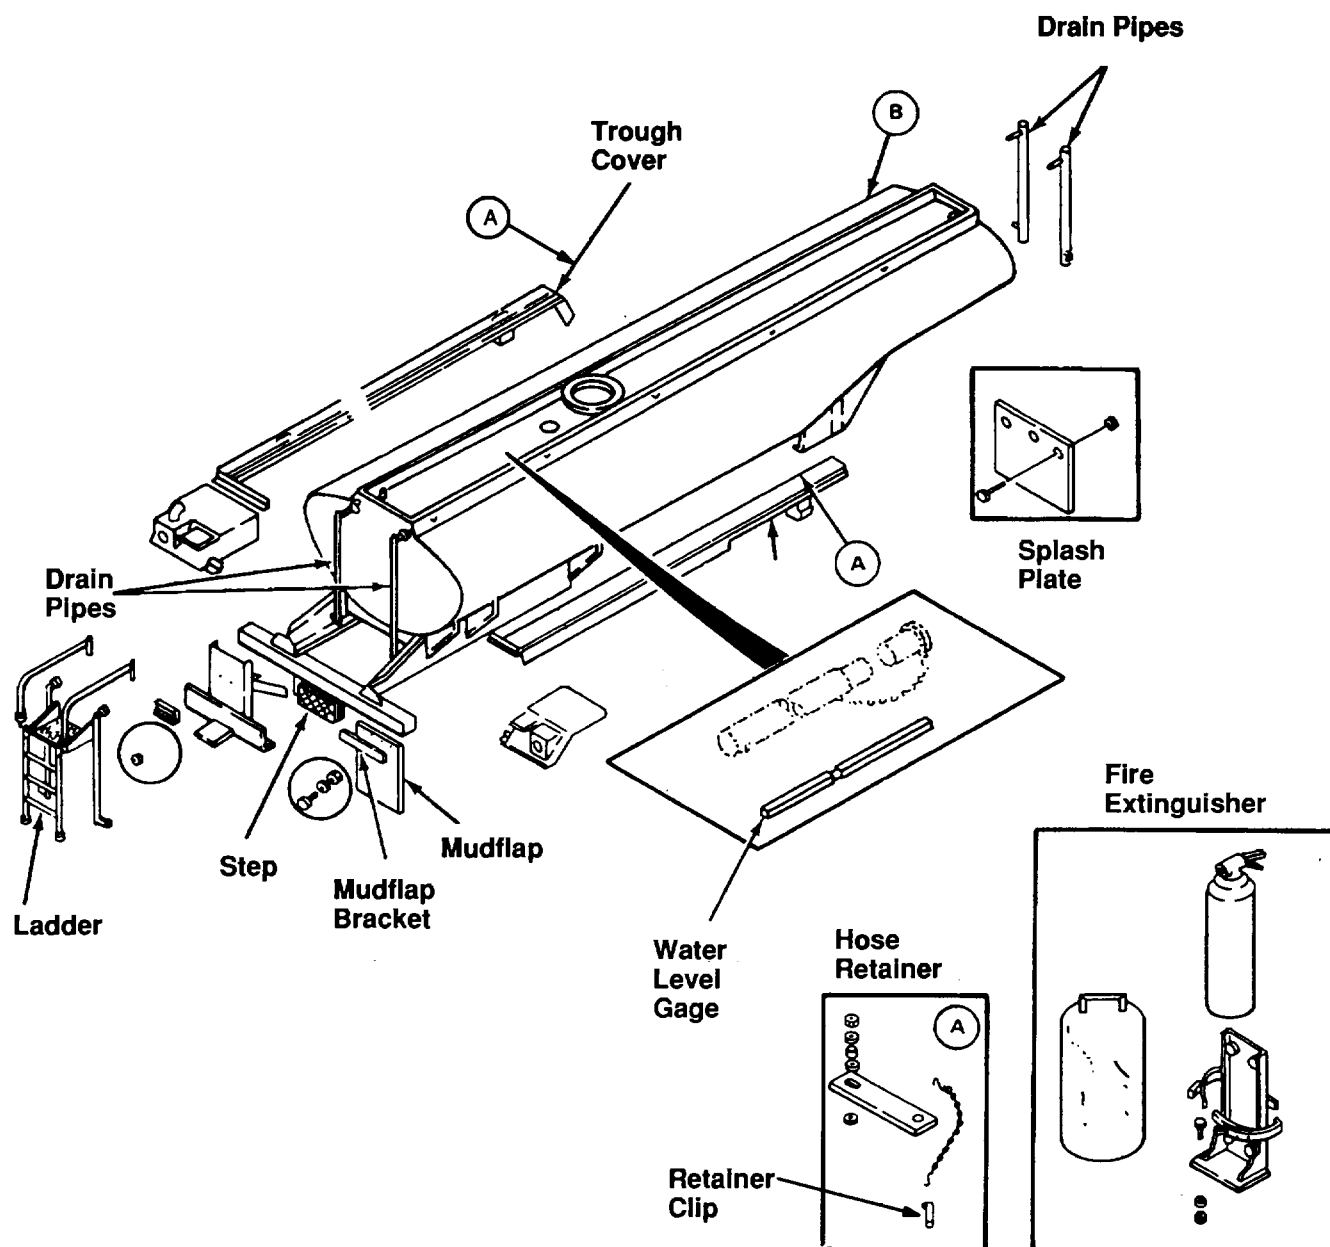

Figure 4-65. Tank Body Parts
4-58. Tank Body, Fig. 4-65.
4-59. Ladder and Drain, Fig. 4-65.*a. Inspection.*
a. Adjustment (Fig. 4-65).
(1) Remove padlock, release safety latch (13) and open fill cover (7).
(2) Loosen locknut (5) on underside of fill cover and close fill cover.
(3) Loosen or tighten adjusting bolt (14) in center of strongback until latch just clears the secondary latch on end of strongback.
(4) Open fill cover (7) and tighten locknut (5).
(5) Close cover and recheck clearances of latch and strongback.
a. Removal. Remove retainer clips from hose retainers, slide bar aside, and remove hose from trout fig. 4-65.